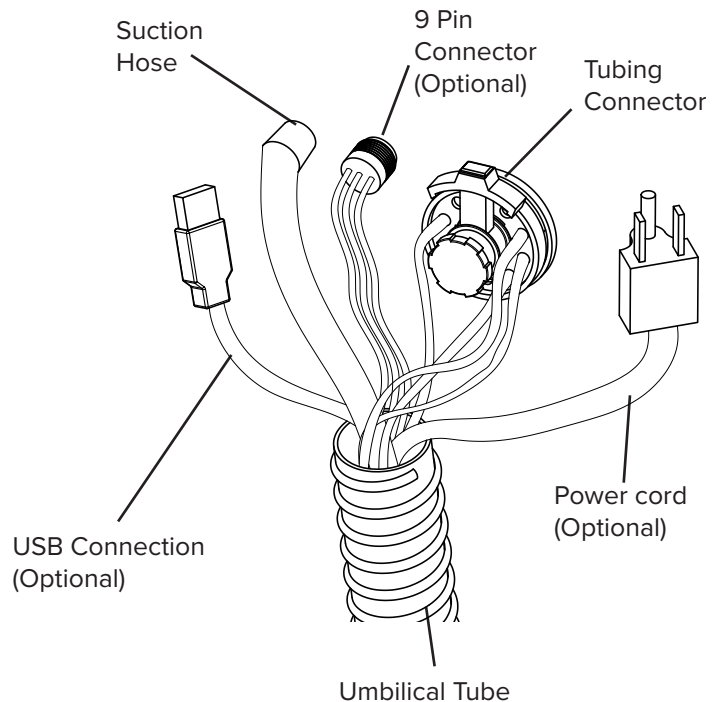

Fig 10.8
2. Refer to Fig 10.8 to become familiar with the tubing and electrical connections (some options shown may not be identical to the configuration of your Workstation).